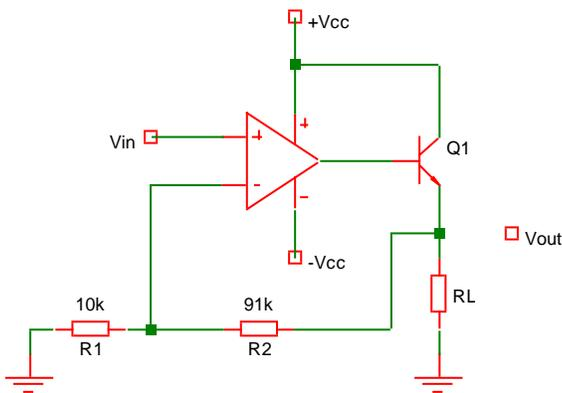

Fig. 1:  $V_{IN}$  is a constant voltage.
- 1) Consider the current booster shown in Fig. 1. The input voltage is  $V_{IN} = 500$  mV and the load is  $R_L = 75$  ohm. Assume an ideal op amp with  $\pm V_{CC} = \pm 9$ V. The transistor has  $V_{BE,ON} = 0.7$ V and  $\beta = 100$ .